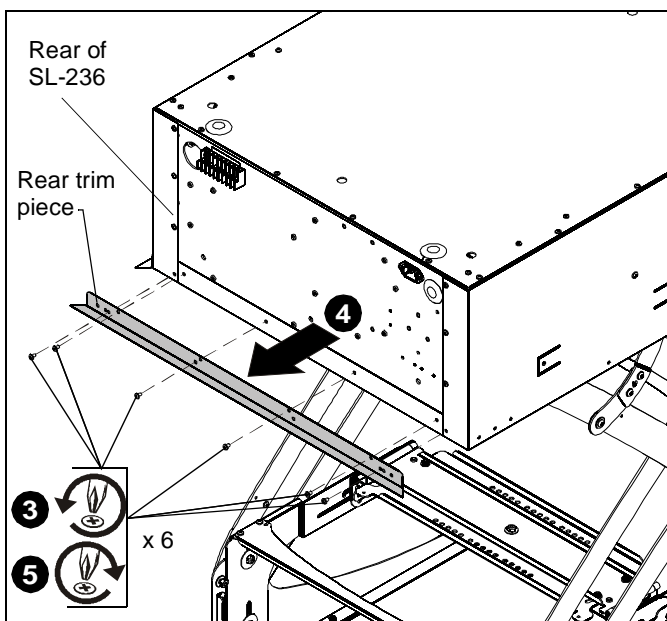

Figure 2
3. Remove six Phillips screws from rear trim piece. (See Figure 2)